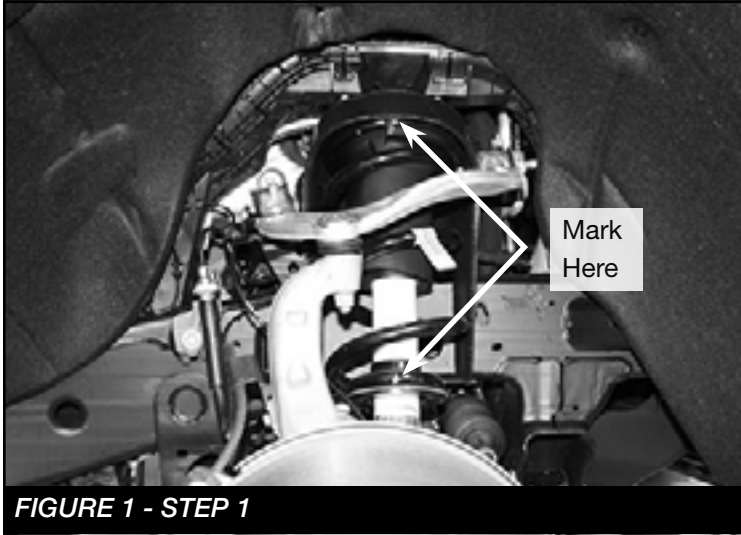

FIGURE 1 - STEP 1
1. Disconnect the negative terminal on the battery. Jack up the front end of the truck and support the frame rails with jack stands. **NEVER WORK UNDER AN UNSUPPORTED VEHICLE!** Remove the front tires. **IMPORTANT:** Using a paint pen mark straight line down the center of the coilover at the top cap, lower spring perch and the lower mount. **SEE FIGURE 1**